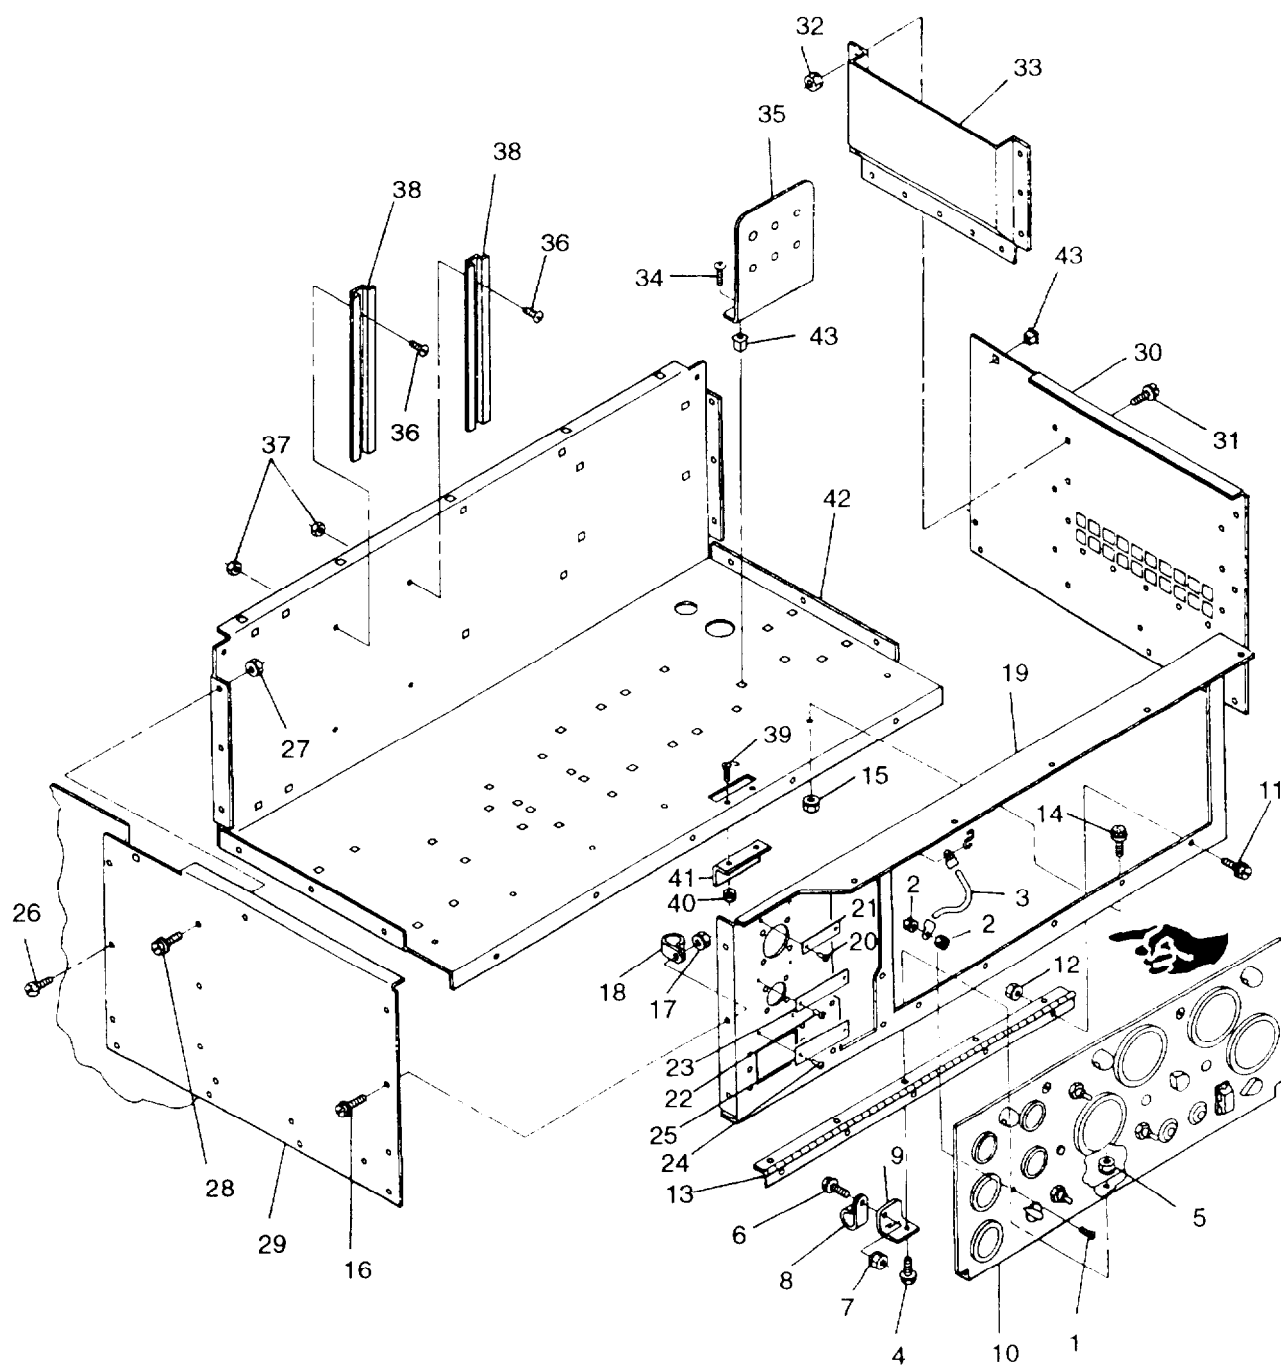

FIGURE 2-19. Control Box Panels
Inspect control panel (10, FIGURE 2-19) for dents, cracks, loose paint, and corrosion
f. Tag and disconnect all electrical leads to remaining indicators and switches on control panel (10, FIGURE 2-19).
g. Remove screw (1). nuts (2). and strap (3).
- h. Remove bolts (4) and (6), nuts (5) and (7), bracket (9), clamp (8), and control panel (10) from control box assembly.
- i. Remove bolts (11), nuts (12), and hinge (13) from control box assembly.
- c. Repaint surface in accordance with TM 43-0139. (F) Refer to applicable directives.
- a. Install hinge (13, FIGURE 2-19) on control box assembly with bolts (11) and nuts (12)
- b. Install control panel (10), clamp (8), and bracket (9) on control box assembly with bolts (4) and (6). and nuts (5) and (7).
- c. Install strap (3) on control panel (10) with screw (1) and nuts (2)
Inspect control panel frame (19, FIGURE 2-19) for dents, cracks, loose paint, and corrosion.
- h. Remove bolts (14 and 16, FIGURE 2-19), nuts (15) and (17), clamp (18), and control panel frame (19) from control box assembly.
- i. If necessary, drill out rivets (20), (22), and (24) and remove identification plates (21), (23), and (25).
- l. Repaint surface in accordance with TM 43-0139. (F) Refer to applicable directives.
- a. Install control panel frame (19, FIGURE 2-19) and clamp (18) to control box assembly with bolts (14) and (16) and nuts (15) and (17).
- b. If removed, install identification plates (21), (23), and (25) on rear panel (19) with rivets (20), (22), and (24).
- a. Inspect side panels (29 and 30, FIGURE 2-19) and air deflector (33) for dents, cracks, loose paint, and corrosion.
- b. Inspect for missing or damaged cage nuts (43).
- d. Remove bolts (16, 26, and 28, FIGURE 2-19), nuts (17) and (27), and control box side panels (29) and (30) from generator set.
- e. Remove bolts (31), nuts (32), and air deflector (33) from side panel (30).
- a. Apply a light coat of sealant (Item 16, Appendix C) to flanges of air deflector (33 FIGURE 2-19).
- b. Install air deflector (33) on control box side panel (30) with bolts (31) and nuts (32).
- c. Install control box side panels (29 and 30, FIGURE 2-19) on generator set with bolts (16), (26), and (28) and nuts (17) and (27). Ensure center bolt (16) and nut (17) on left side panel secures clamp (18).
- f. Inspect control box bottom (42, FIGURE 2-19) for dents, cracks, loose paint, and corrosion.
- g. Inspect for missing or damaged cage nuts (43).
- h. Remove screws (34, FIGURE 2-19) and bracket (35) from control box bottom (42).
- i. Remove screws (36), nuts (37), and relay tracks (38) from control box bottom (42).
- j. Remove screws (39), nuts (40), and latch plate (41) from control box bottom (42).
- a. Install latch plate (41, FIGURE 2-19) on control box bottom (42) with screws (39) and nuts (40).
- b. Install relay tracks (38) on control box bottom (42) with screws (36) and nuts (37).
- c. Install bracket (35) on control box bottom (42) with screws (34).